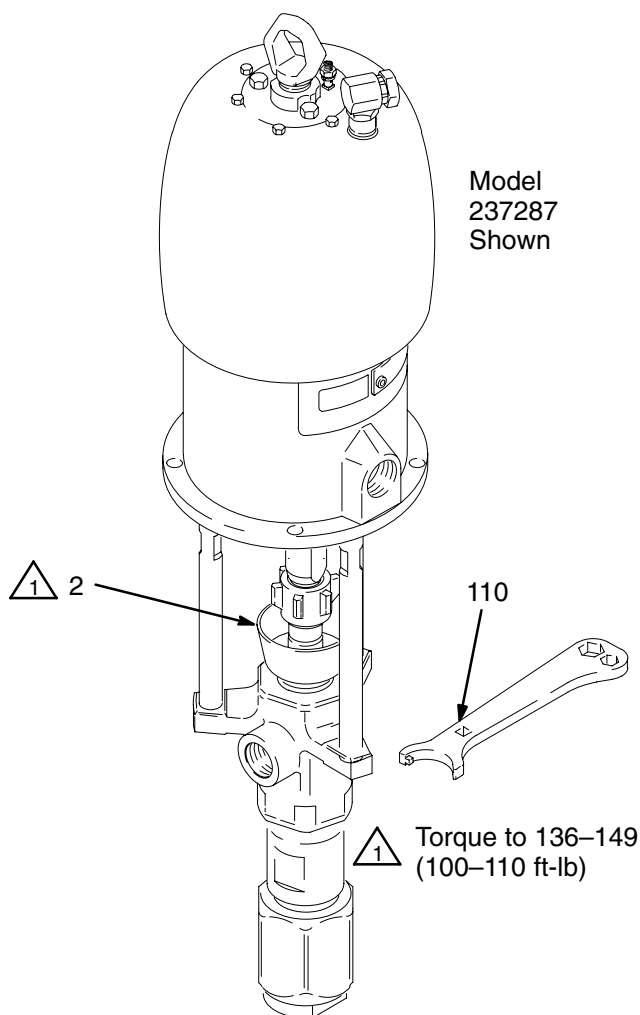

Fig. 5
Before starting, fill the packing nut (2) 1/3 full with Graco Throat Seal Liquid (TSL) or compatible solvent. See Fig. 5.